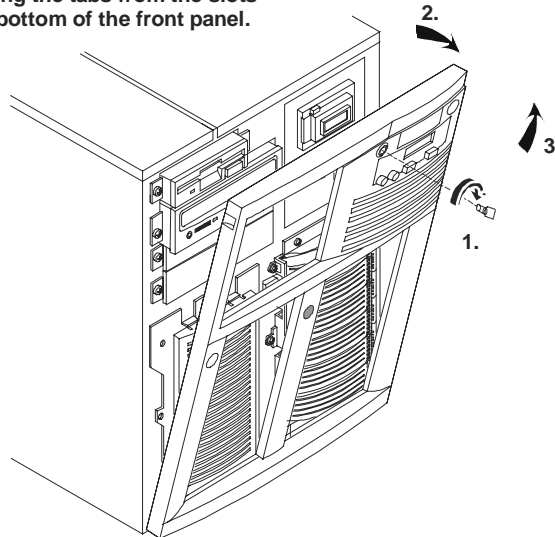

Figure 3-8. Removing the HP NetServer LH 3000 Bezel
9. Snap the bezel on the bezel hinge and swing the bezel closed engaging the bezel latch (see Figure 3-8).